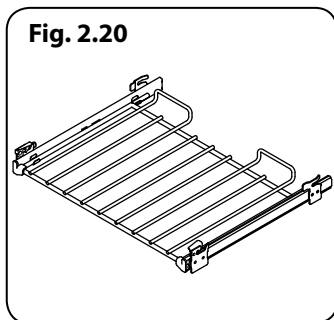

Fig. 2.20
- 2 telescopic shelves with runners (Fig. 2.20)